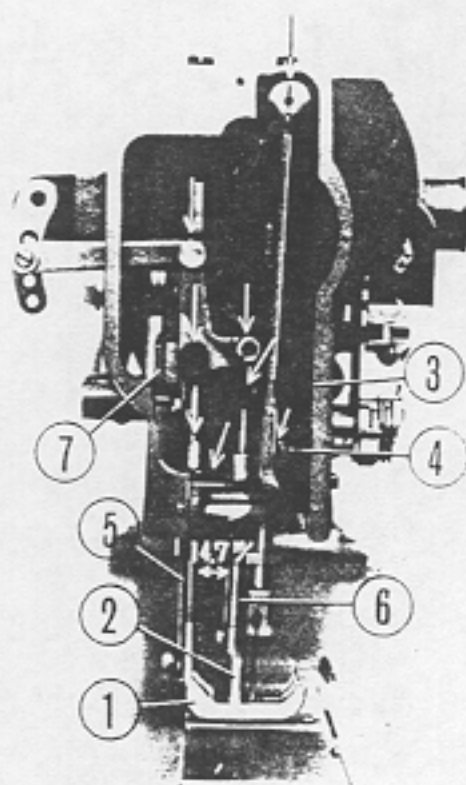

Fig. 2
The alternate lifting amount of the lifting presser foot (Fig. 2 (1)) and the vibrating presser foot (Fig. 2 (2)) is equal, normally, and this lifting height is adjusted according to the thickness of the sewing cloth. However, sometimes this alternate lifting amount may be changed by various kinds of materials.
To adjust to this position, loosen the needle bar clamping screw (Fig. 2 (3)) and by moving the needle bar up and down, determine the correct height. When this adjustment is completed, tighten the screw.
The correct relative position of the needle bar frame (Fig. 2 (4)) and the presser bar (Fig. 2 (5)) should be such that when the stitch length is set at "0", the clearance between the presser bar and the vibrating presser bar (Fig. 2 (6)) becomes 17 m/m ($43/64''$).
To adjust the height of the presser foot, loosen the set screw of the knee lifter bell crank bracket (Fig. 2 ⑦) with the knee lifter in raised up position and make the clearance between the lower surface of the presser foot and the upper surface of the throat plate at 16 m/m(5/8") and tighten the screw. To make the presser foot and the vibrating presser foot to rise to the same height, lower the presser foot, loosen the set